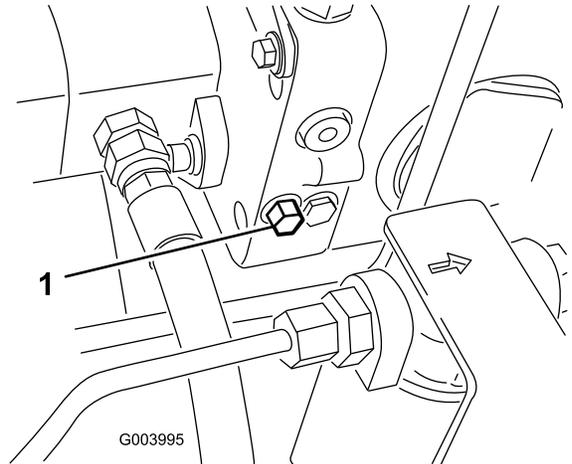

Figure 71
1. Rotate the bypass-valve bolt 1-1/2 turns to open and allow oil to bypass internally (Figure 71).